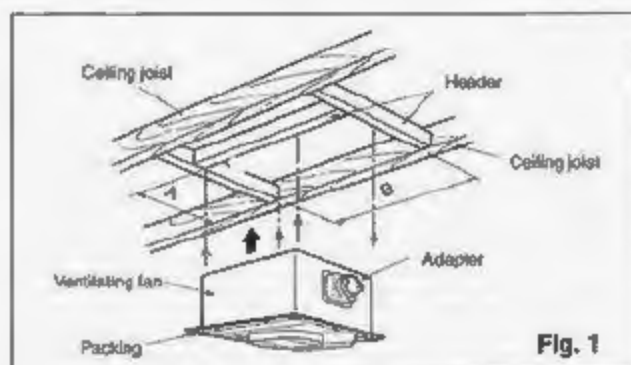

Fig. 1
1. Install header between ceiling joists using nails or screws. (Fig. 1)
2. Install the ventilating fan to the header (thickness: 1.5 inch or more) with long screws. Reinforce the installation hardware as needed to prevent the ventilating fan from dropping. (Figs. 1 & 2)